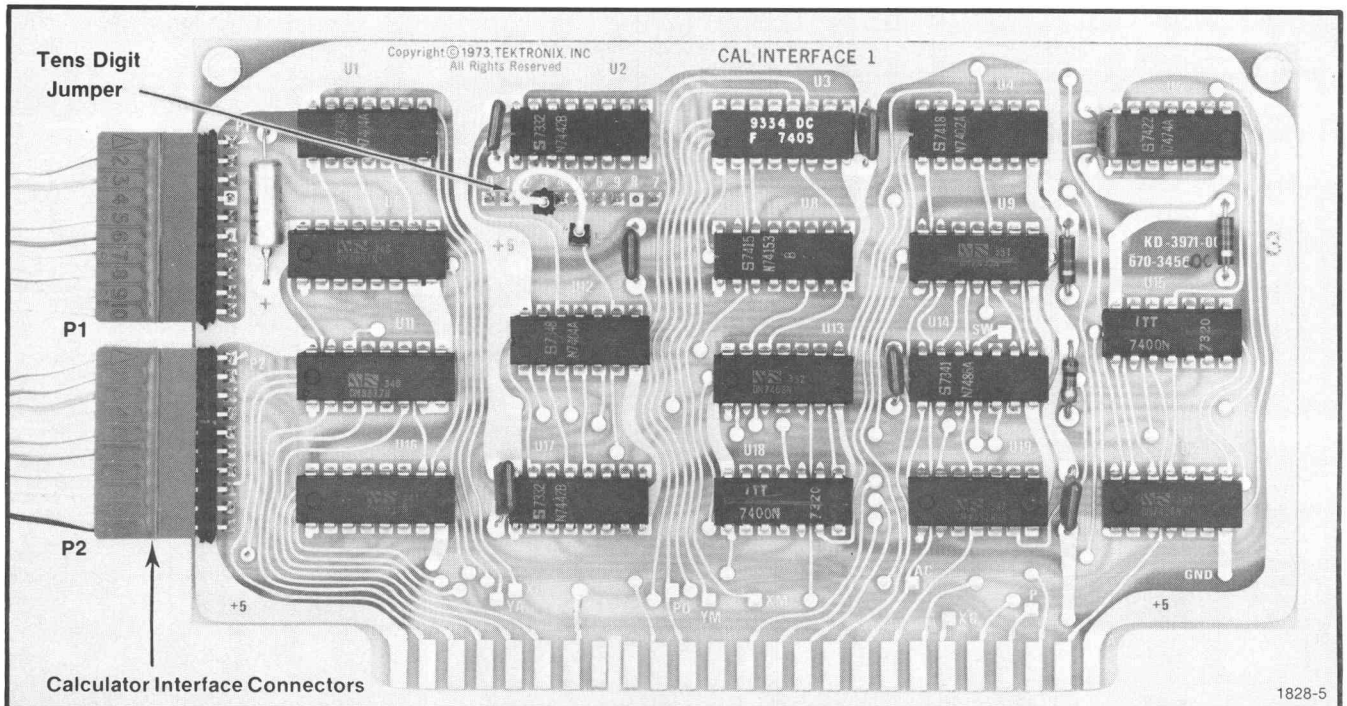

Fig. 1-12. Calculator Interface #1 connector locations.
6. Move the jumper to the appropriate location for the desired tens digit in the plotter address (Fig. 1-12).
8. Connect the two harmonica connectors to the pins on the rear edge of the Calculator Interface #1 card. The brown connector attaches to the set of pins labeled P1 and the red connector to P2. Pin 1 is at the top of each connector (Fig. 1-12).